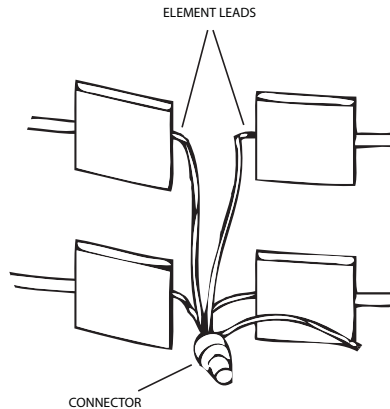

FIGURE 4
9. Remove the crimp-type electrical connectors from the element leads. Refer to Figures 4 & 5 on next page.
8. Using the crimp-type electrical connectors supplied, re-connect the element leads and jumper wires according to the wiring diagram and Figures 4 & 5 above.